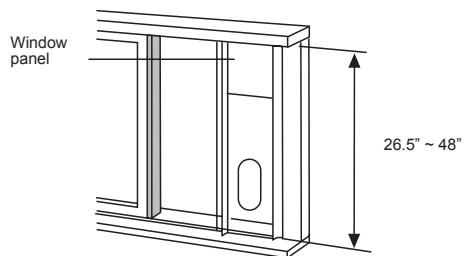

Fig. 15
2. Attach the window slider kit to the window stool. Adjust the length of the window slider kit according to the width of window, shorten the adjustable window kit if the width of window is less than 27 inches. Open the window sash and place the window slider kit on the window stool. See Fig.15